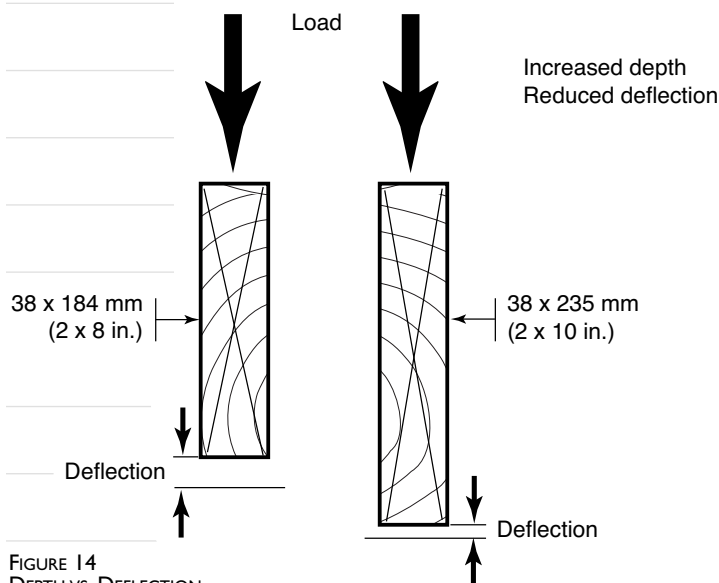

FIGURE 14
- ◆ If a floor that is typically constructed with 38 x 184-mm (2 x 8-in.) joists is instead constructed using 38 x 235-mm (2 x 10-in.) joists, the increase in the maximum span controlled by vibration increases by approximately 18 percent. Switching from 38 x 286-mm (2 x 12-in.) construction to 38 x 235-mm (2 x 10-in.) construction results in an increase in the maximum span controlled by vibration by about 14 percent (see Figure 14).